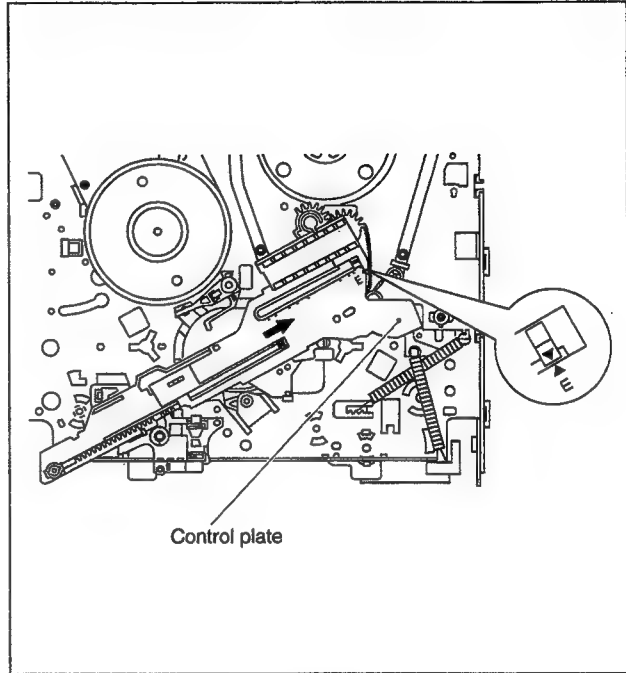

Fig. 2-3-2
- (1) With register marks on the both loading arm assemblies in alignment, install the control plate so that the mark ▼ on the loading arm gear shaft is in alignment with mark E of the control plate. (See Fig.2-3-2)